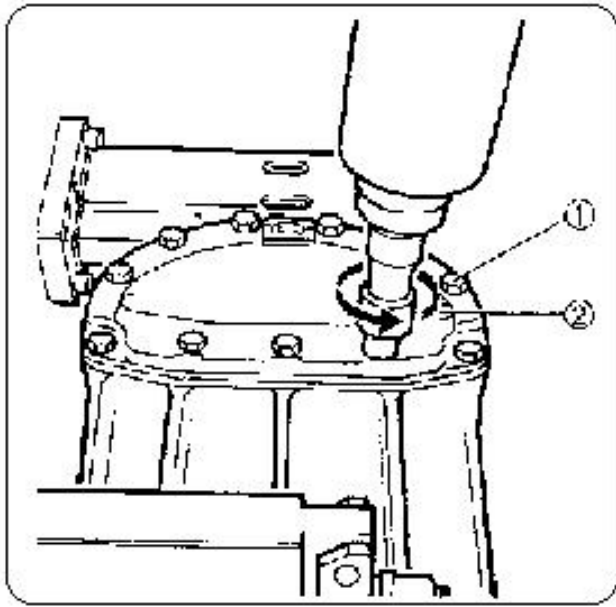

Figure 5
2) Tool for installing taper roller bearings on pinion (5), Plastic mallet - Fit the taper roller bearing to the pinion shaft, position the tool on the bearing and use the mallet to drive the bearing against the pinion (Ref. H fig. 5), fit the spacer on the shaft.
3) 30 mm hex wrench, Regular pliers, Hammer, Tool (5) -
Insert the taper pin in the reduction gear seat from the inside (Fig. 5), insert the second taper roller bearing on the top of the pin and use the hammer and special tool to drive the bearing fully home against the race.